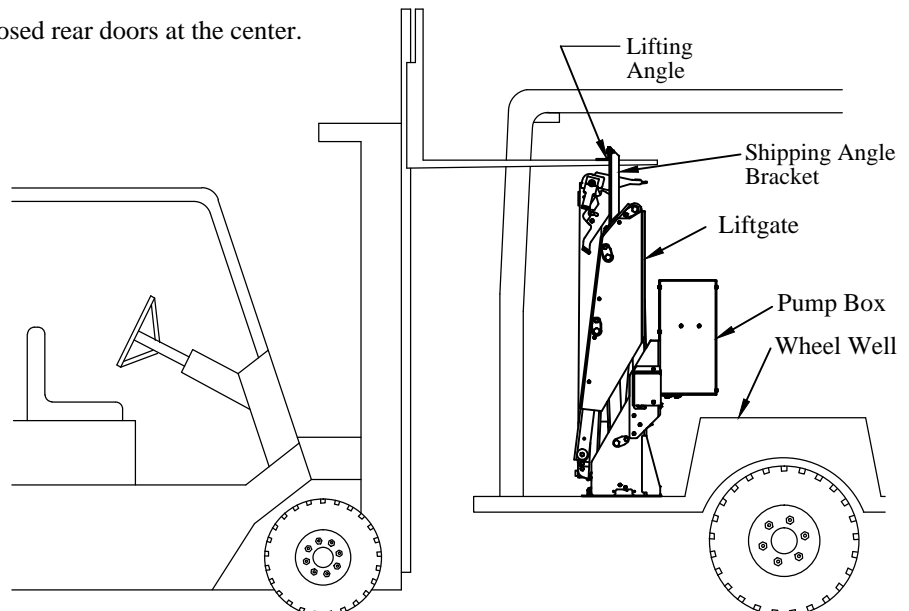

Figure 10: Lifting angle.
1. **Lift** the liftgate by the lifting angle with a fork truck (Figure 10).
2. **Place** the liftgate in the rear of the van (Figure 10):